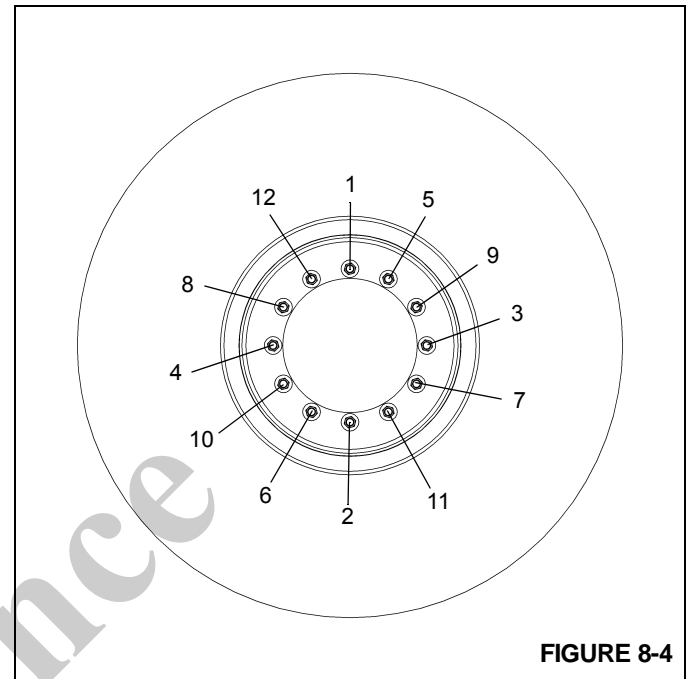

FIGURE 8-4
1. Position the wheel assembly on the mounting studs being careful not to damage threads. Install the lug nuts and tighten them to 68 Nm (50 lb-ft) in the sequence shown in (Figure 8-4)
3. Torque the lug nuts 461 to 488 Nm (340 to 360 lb-ft) in the sequence shown in (Figure 8-4).